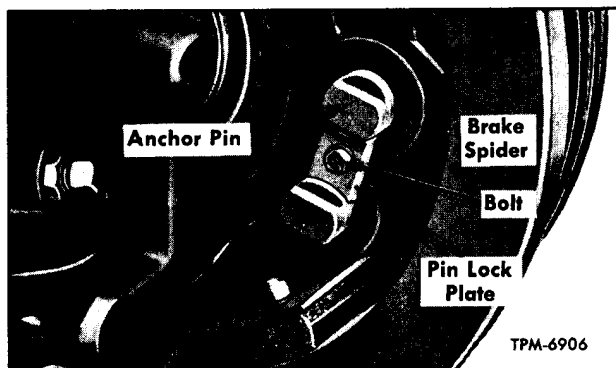

Figure 23—Front Brake Shoe Anchor Pins Installed (Typical)
Anchor pin end of each shoe fits between brackets at brake spider, and is retained by straight type anchor pin (fig. 23). Both anchor pins are held in place by a lock plate which engages notches in end of each pin and is attached to brake spider by a cap screw. Anchor pin ends of shoes are equipped with replaceable bushings.
3. Install brake shoes at brake spider in same position from which they were removed. Insert anchor pins through brake spider and shoes. Turn anchor pins so notches in inner end face each other. Install anchor pin lock plate and secure with cap screw and lock washer (fig. 23).